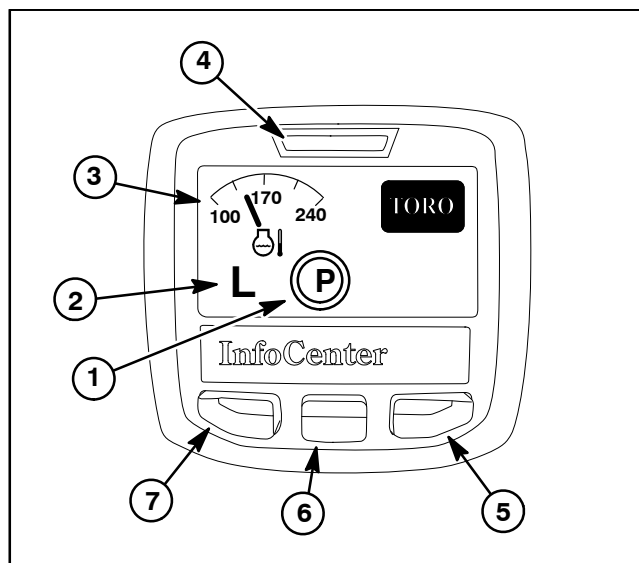

Figure 10
The two (2) InfoCenter main information screens (Figs. 10 and 11) are displayed after the initial splash screens have been displayed for several seconds. During normal machine operation, the main information screens provide machine information for the operator. Toggling between the main information screens is done by pressing the right button on the InfoCenter.